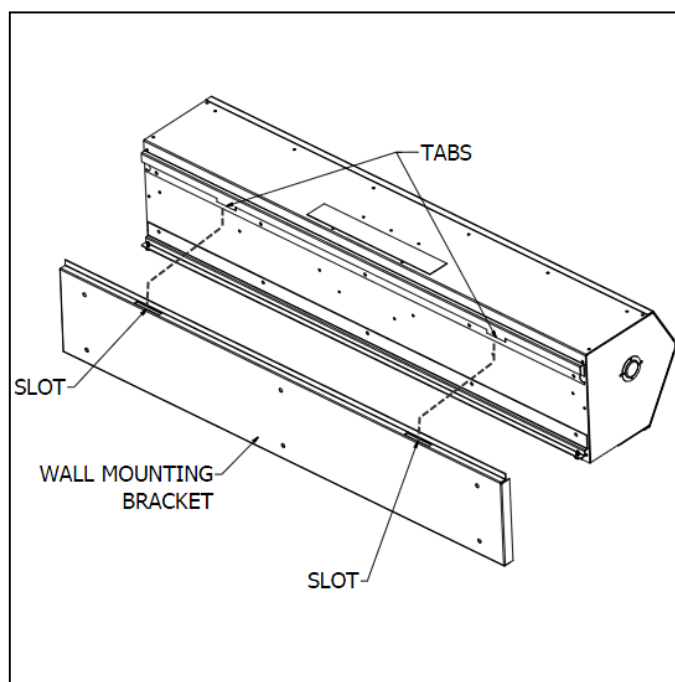

FIG. 2
4. Align the tabs on the rear of the unit with the slots provided on the wall mounting plate (FIG. 2). The bottom flange on the unit must also drop in the bottom channel of the wall mounting plate. Replace the Tek Screws to secure the unit in place.